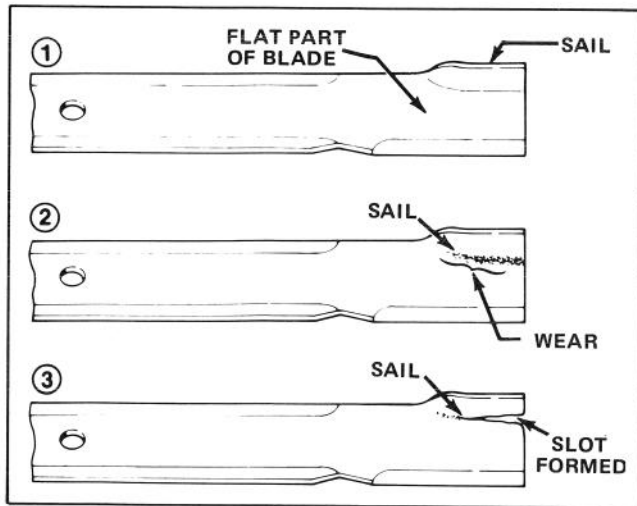

Figure 19
2. Examine cutting ends of the blade carefully, especially where the flat and curved parts of the blade meet (Fig. 19). Since sand and abrasive material can wear away the metal that connects the flat and curved parts of the blade, check the blade before using the mower. If wear is noticed (Fig. 19), replace the blade.